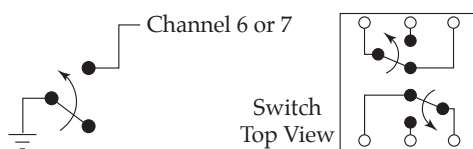

Figure L.4:
1. Examine the circuit on the breadboard on Connector A of the myRIO. The push button switches of Fig. L.4 connect channels 6 and 7 to ground when pressed. Note: These channels have pull-up resistors.